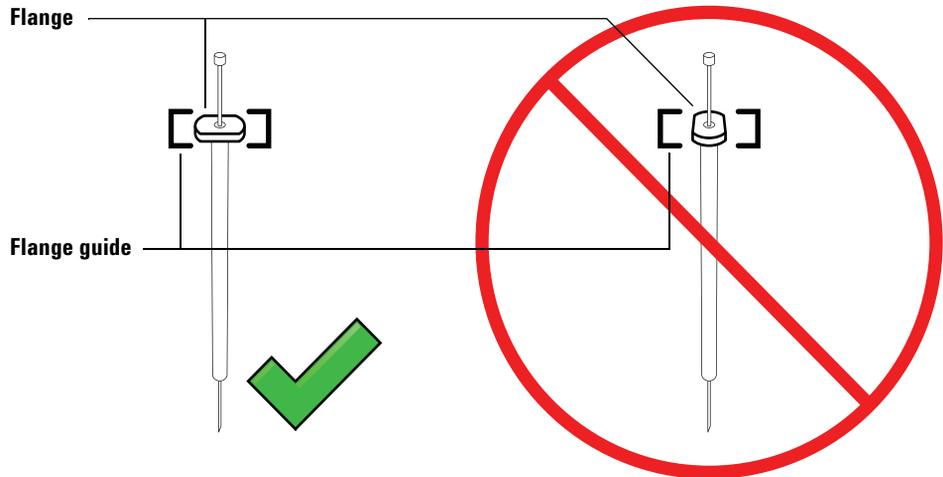

Figure 74 Syringe flange orientation
- Align the syringe flange with the flange guide and press the syringe into place, keeping the needle end in the guide hole of the needle support foot. Make sure that the flat edge of the syringe flange faces out (Figure 74).